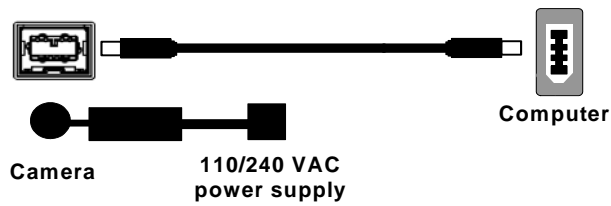

Figure 4 — FireWire and External Power Supply Connection
In most cases, the FireWire cable provides the necessary power required by the Retiga-SRV. However, if your camera is cooled you will need to provide additional power to the camera as shown in Figure 4
- In order to obtain the cooling specification of the camera, the supplied external power adapter needs to be connected to the camera as shown in Figure 4 below.
- If you have a laptop computer, you can use the built in FireWire port or a PCMCIA card. However, should you connect to a laptop computer you will still be required to connect the supplied external power supply to the camera in order to power it (see Figure 4). Optional powering of the PCMCIA card will not be required in this configuration